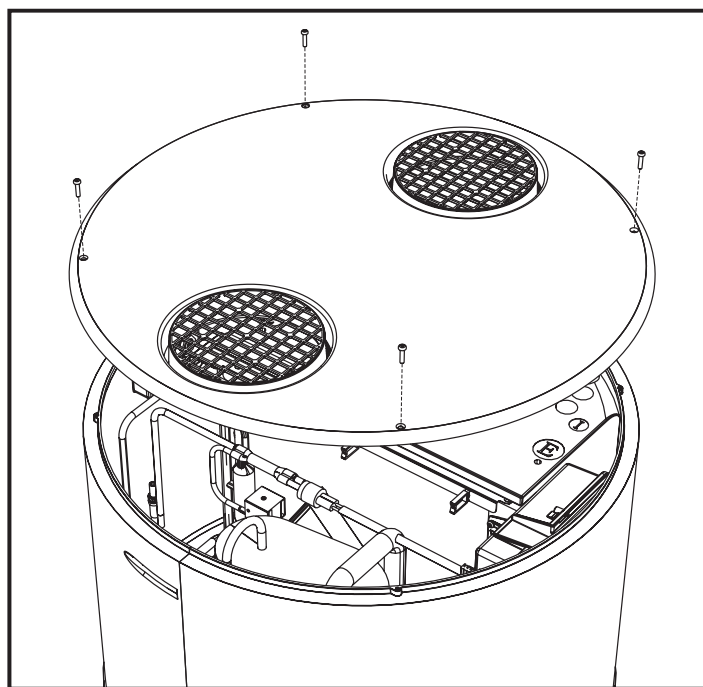

fig. 36- Top cover removal
- Remove the top cover by first undoing the locking screws (fig. 36).